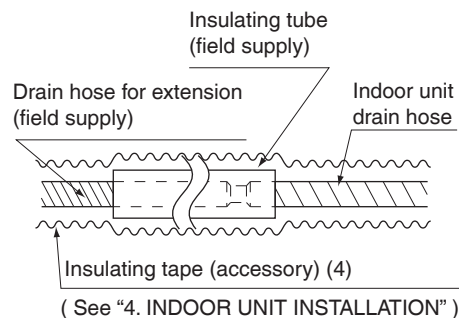

Fig. 17
- When extending the drain hose, use a commercially available drain hose for extension, and be sure to insulate the extended section of the drain hose which is indoors. (Refer to Fig. 17)